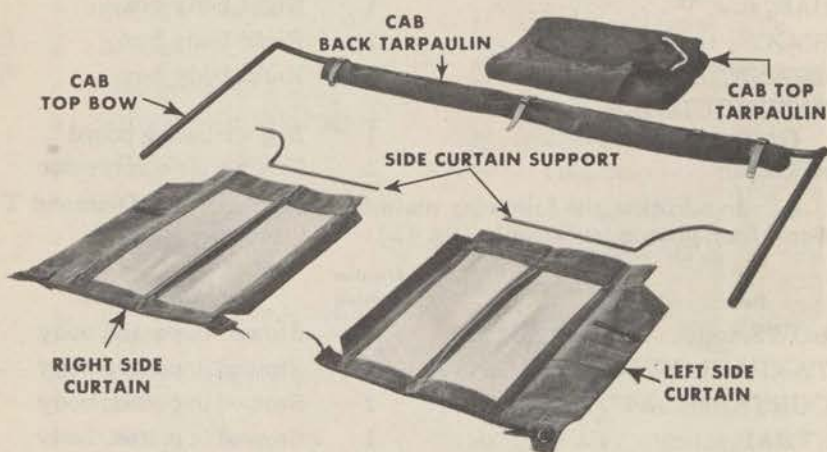

Figure 44—Equipment Supplied with Vehicles with Open Type Cab
f. In addition, the following materiel is supplied with Diamond T 4-ton, 6 x 6 vehicles with the open type cab (fig. 44):